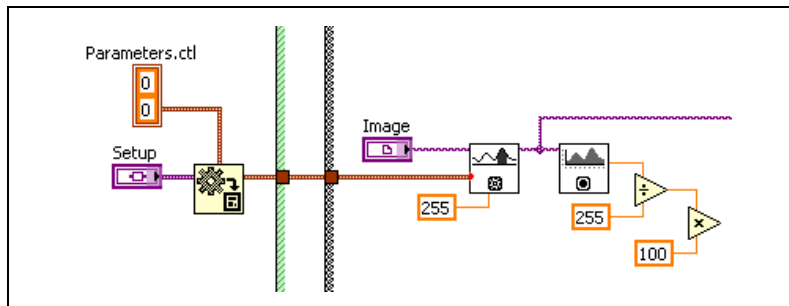

Figure 4-2. Calculating the Image Threshold Percentage
6. Complete the following steps to modify the block diagram to calculate the percentage of the image removed by the image threshold, as shown in Figure 4-2: